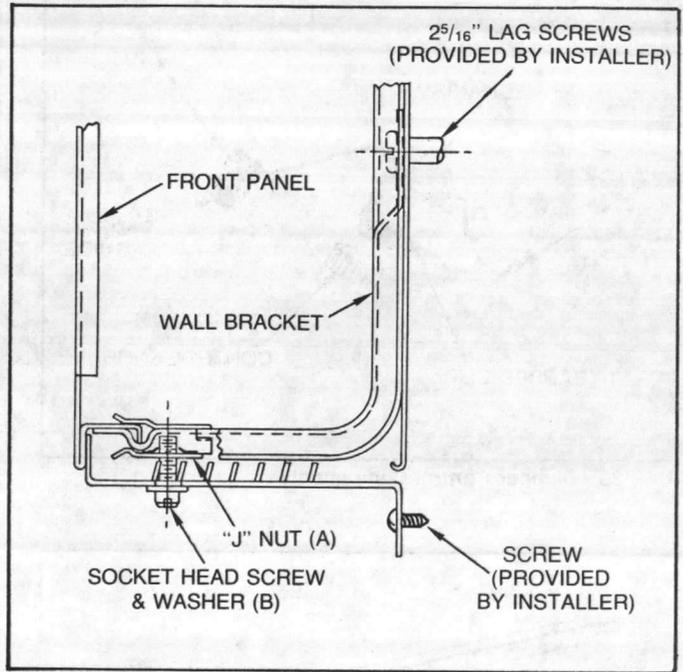

FIGURE 38 - Bottom Inlet Grille
Bottom inlet grilles are separate pieces that attach to the wall and the enclosure bracket. As shown in Figure 38, the "J" Nut (A) is factory installed and contains threads for the screw (B). To install, attach the front edge of the grille to the bracket with the bolts and washers provided and secure the back of the grille to the wall.